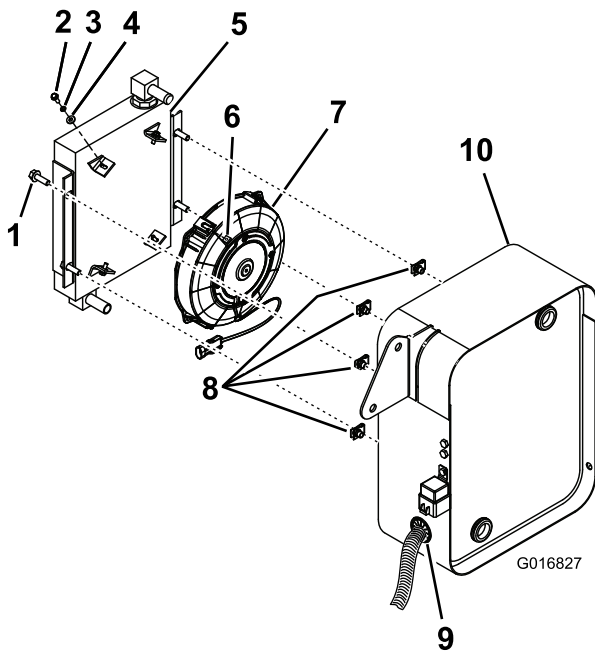

Figure 5
1. If the fan and oil cooler are not assembled, install the fan onto the oil cooler with 4 screws, 4 lock washers, 4 flat washers, and 4 square nuts as shown in (Figure 5).